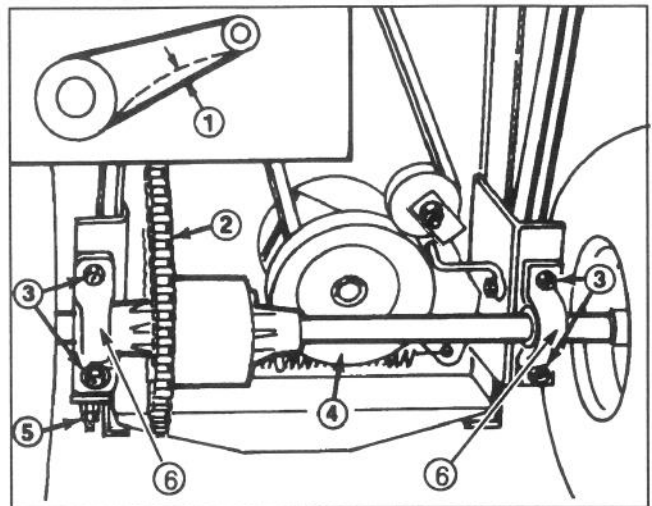

Figure 26
1. Check the deflection of the drive chain by lifting up on chain with moderate pressure at mid span (Fig. 26). There should be 1/8 of an inch (3 mm) deflection (Fig. 26). If deflection is not as specified, an adjustment is required — steps 2-6.
2. Loosen the four flange nuts securing the pillow blocks w/differential axle to the rider frame (Fig. 26).
5. Since the differential axle must be parallel to the rear of chassis, measure the distance from the center of the pillow blocks to the rear of the chassis (Fig. 26). The difference between the two measurements must not exceed 1/4 inch (6 mm). If the difference exceeds 1/4 inch (6 mm), the differential axle is not parallel with chassis; therefore the left side must be repositioned to attain the desired dimension. Tighten the locknuts securing the left pillow block to the rider frame.